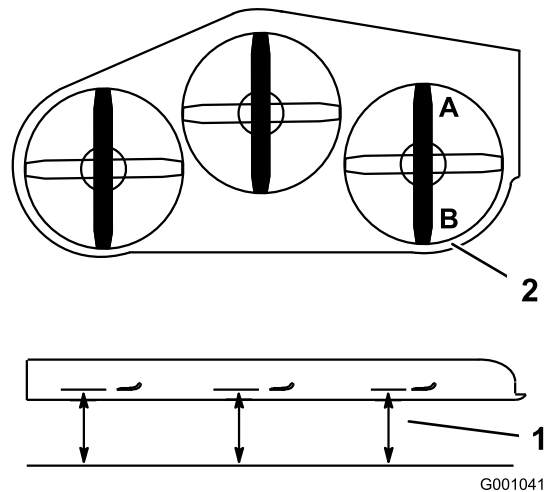
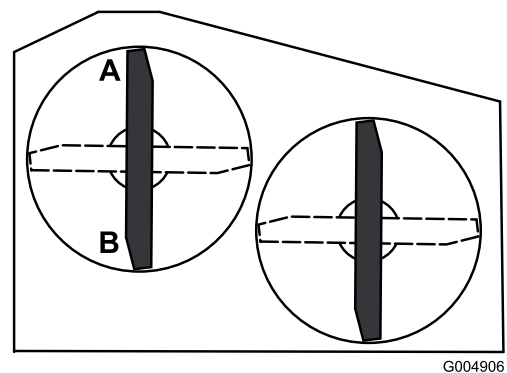

Figure 65
Figure 66
2. Position one blade front-to-rear. Measure at **A** and **B** locations from a level surface to the cutting edge of the blade tips (Figure 65 or Figure 66). For 36 inch mower decks use Figure 66.
4. Position the blades front-to-rear. Measure at C and D locations (Figure 65) from a level surface to the cutting edge of the blades.